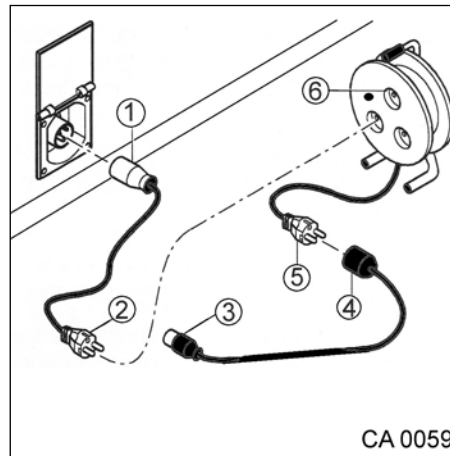

Fig. 42 Cable connection
CEE connection coupling (Fig. 42, Pos. 1) with ground contact and connector (Fig. 42, Pos. 2) with ground contact.
socket (Fig. 42, Pos. 6) with ground contact and connector (Fig. 42, Pos. 5) with ground contact.
connection coupling (Fig. 42, Pos. 4) with ground contact and CEE connector (Fig. 42, Pos. 3) with ground contact.
3. Plug in the CEE connection coupling (Fig. 42, Pos. 1).
4. Plug the connection coupling (Fig. 42, Pos. 3) into the power supply of the pitch.